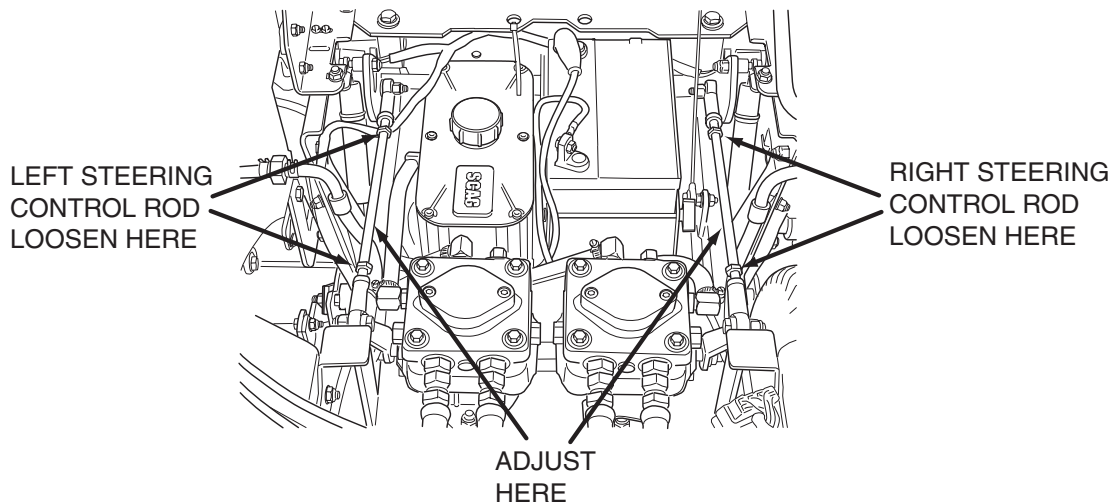

Figure 6-3. Steering Control Rods Adjustment
4. Adjust the RH wheel by loosening the jam nuts on the steering control rod and turning the rod until the drive wheel turns in the forward direction. Turn the rod back until the drive wheel stops moving. Turn the rod back an additional 1/2 turn. (See Figure 6-3).
- A. Stop the machine and place the steering control levers in the neutral position. Loosen the lock nuts securing the ball joints at each end of the LH steering control rod. Rotate the control rod to shorten the rod and tighten the lock nuts. This will cause the control rod to stroke the LH pump less, slowing down the LH wheel. (See Figure 6-3).
- A. Stop the machine and place the steering control levers in the neutral position. Loosen the lock nuts securing the ball joints at each end of the RH steering control rod. Rotate the control rod to shorten the rod and tighten the lock nuts. This will cause the control rod to stroke the RH pump less, slowing down the RH wheel. (See Figure 6-3, page 24).